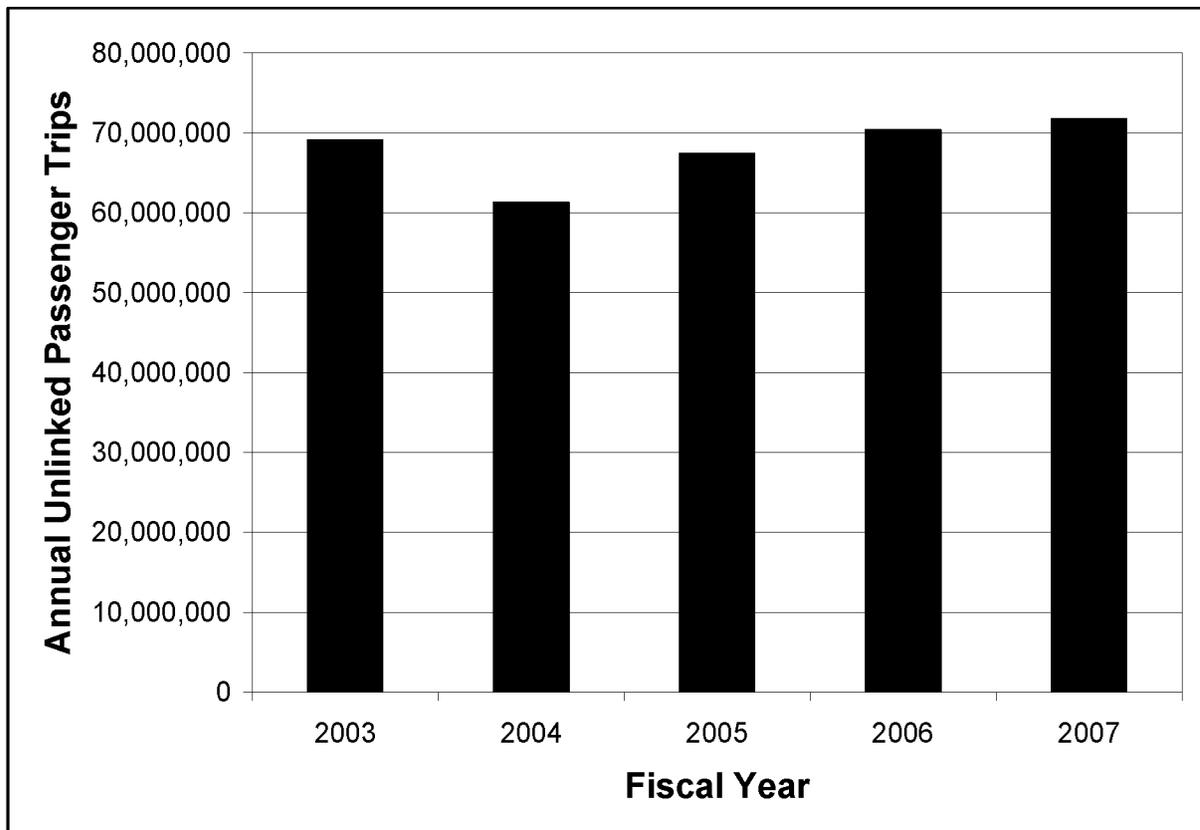

Figure 6: Fixed Route Unlinked Passenger Trips
*TheBus* reported 71,749,456 annual unlinked passenger trips for FY 2007 ending June 30, 2007. This is an increase of over 1,365,000 unlinked passenger trips, or about 1.9 percent, over FY 2006's 70,384,355 unlinked passenger trips, and an increase of over 4,340,000 unlinked passenger trips, or about 6.5 percent, over FY 2005's 67,406,827 unlinked passenger trips. Figure 6 presents this data for FY 2003 through FY 2007. FY 2004 was marred by a 34-day strike by *TheBus* operators that ended September 29, 2003. This was followed by a fare increase that went into effect on October 1, 2003.